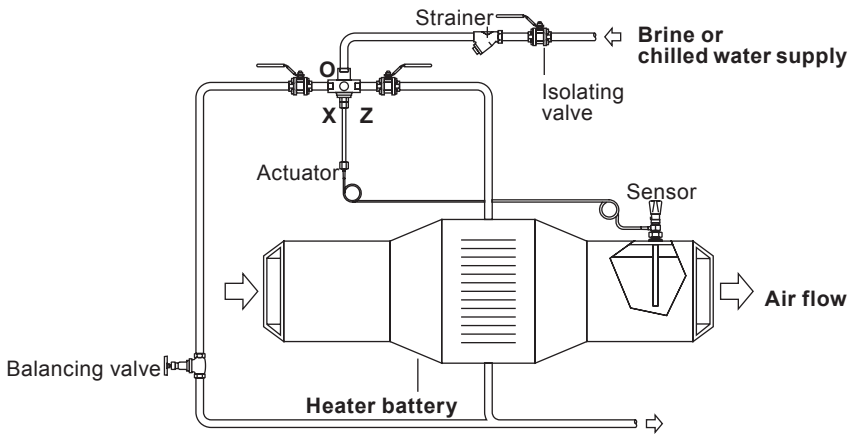

Fig. 11 As a diversion valve - Cooling - Brine or chilled water
4.3 How to replace the piston sealing ring (refer to Figure 11)